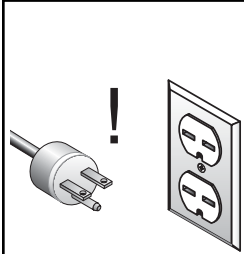

Figure 21. Correct method for surface planing.
2. If the stock is cupped (warped), place the concave side down and slowly feed it over the cutterhead as shown in **Figure 21**.